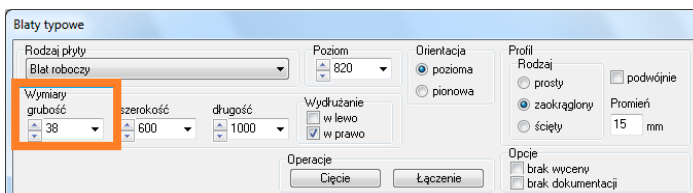

Fig. 194 – worktop edition
- Set thickness of the worktop to be inserted by entering the specified value in the appropriate editing field (Fig. 194):